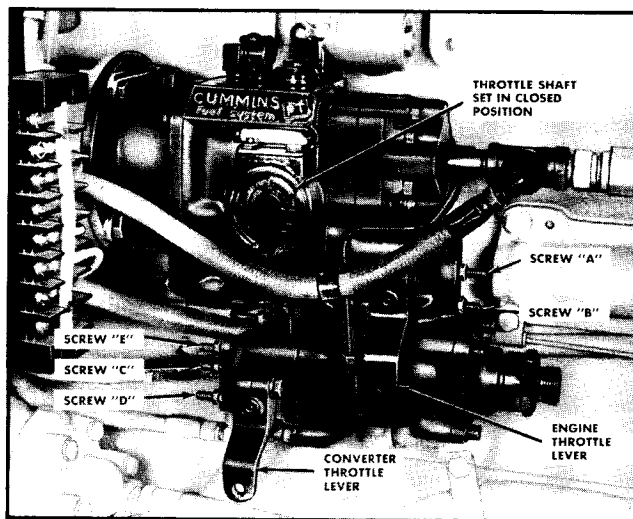

Fig. 4-33. PT Pump with torque converter governor
2. Hold the converter lever in clockwise position and turn in converter governor idle screw "C" (Fig. 4-33) until you are sure the spring is compressed. Turn adjusting screw out; then, back in slowly to check this adjustment.
3. Start the engine and rotate the engine governor lever in clockwise direction; then, set engine idle speed by adjusting idle screw "A" to get 515 to 700 rpm. See Fig. 4-33.
4. Set approximate engine maximum no-load speed by adjusting maximum speed screw "B" while holding engine governor lever against its stop; turn lever in counterclockwise direction. See Fig. 4-33.
- Adjust screw "C" to get rated no-load tailshaft speed of converter. Fig. 4-33.
- Adjust screw "D" until converter governor lever is locked in place. Fig. 4-33.
- Adjust screw "C" to get no-load tailshaft speed of converter. Fig. 4-33.
- Adjust screw "D" until you reach maximum converter speed desired. Fig. 4-33.
2. Loosen screw "C", Fig. 4-33, and back out approximately $\frac{3}{4}$ inch.